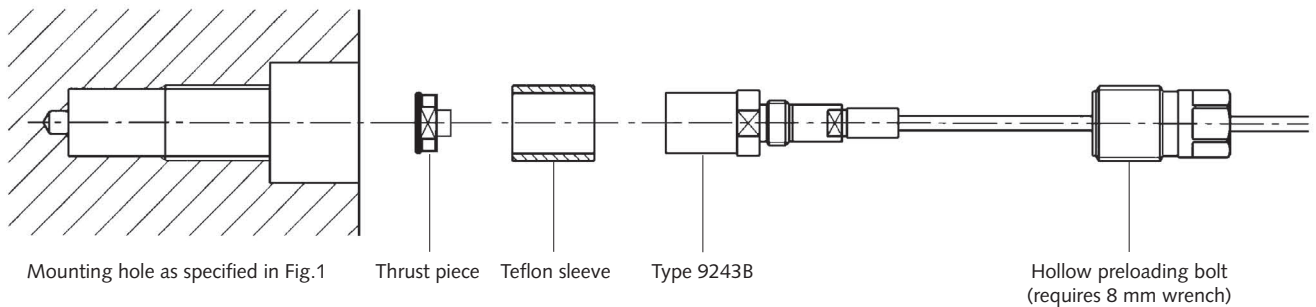

Fig. 5: Ground-isolated mounting of the longitudinal measuring pin (Type 9243B) with mounting kit (Type 9487A)
- Mount and carefully preload the sensor to the stipulated value of 40 000 pC (≈ 16 kN) with the aid of the specially coated type 9487A hollow preloading bolt included in the Type 9487A mounting kit, using a suitable 8 mm tubular socket wrench such as the Type 1385A200 as shown in Figure 5.